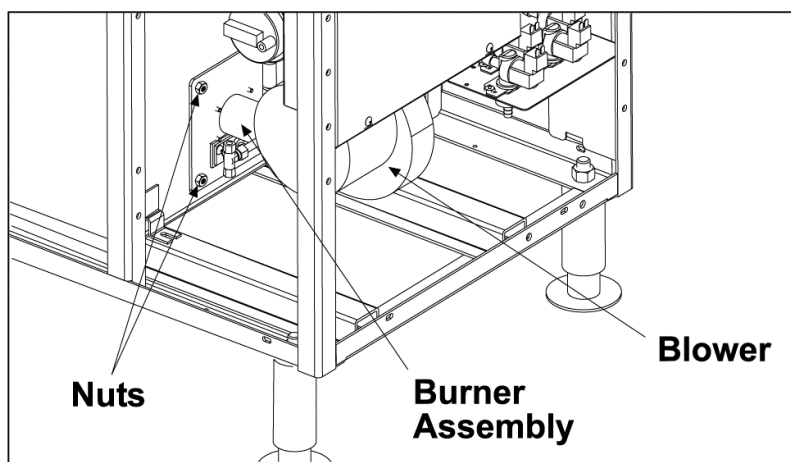

Fig. 9
5. Remove nuts ( Fig. 9) securing burner to tank.